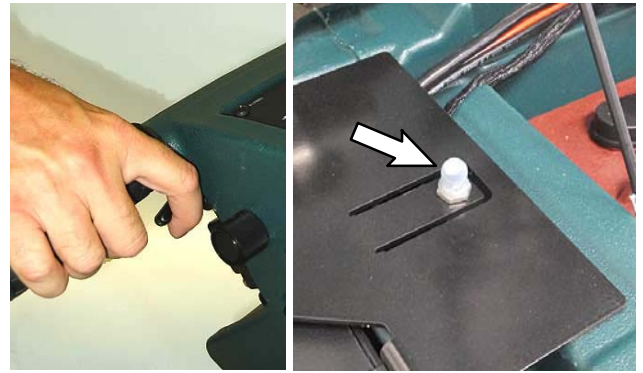

FIG. 36
- c. Turn key on and pull the start triggers to confirm the charger interlock disables the propel during the charge cycle. The machine's safety shut-off switch **MUST** be compressed during test to confirm (FIG. 36).